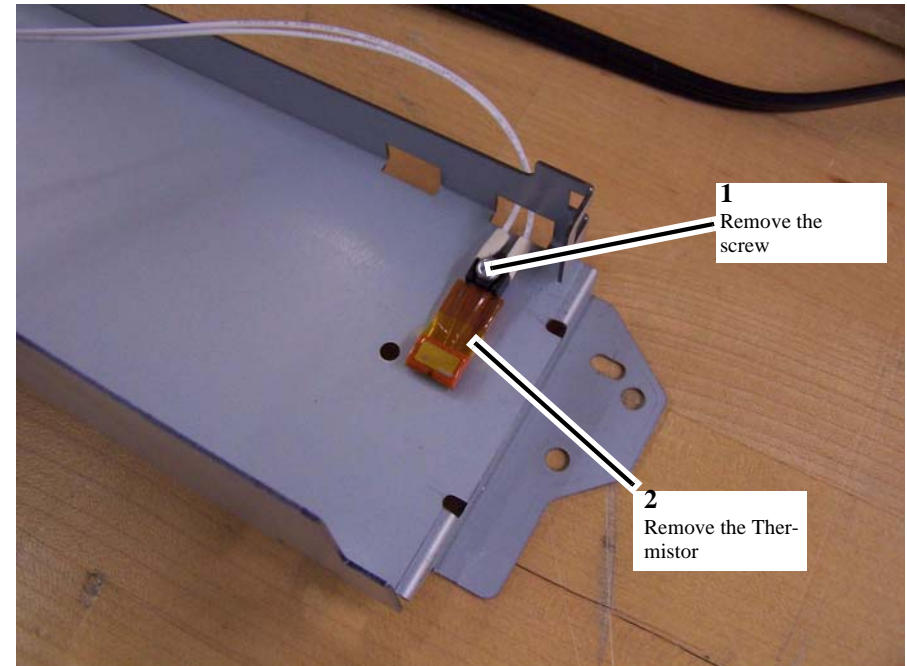

Figure 2 Thermistor removal
3. Remove the Thermistor (Figure 2).